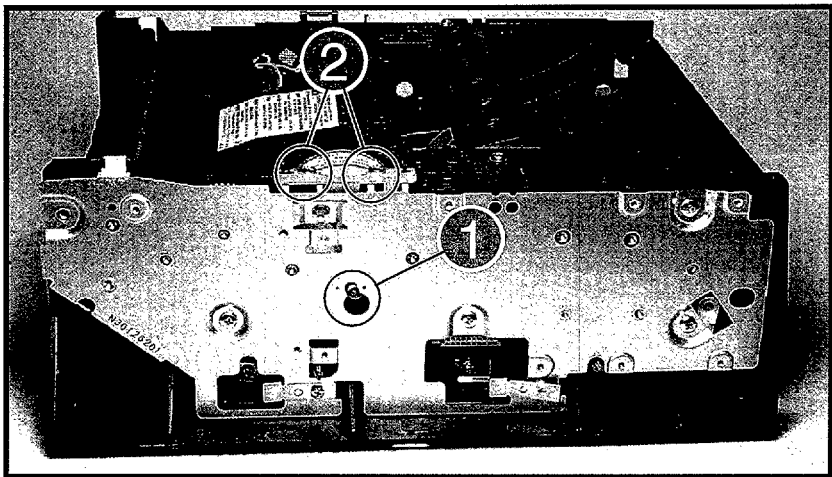

Figure 6-17 Removing the Main Motor (LaserJet 4L shown)
1. Remove the Printer Cover, and the Formatter Shield and PCA (Figure 6-17).
2. Remove the (1) machine screw through the access hole on the Gear Train Assembly, approximately two (2) inches below the top of the Main Motor (Figure 6-17, callout 1).
3. Remove the (2) self-tapping screws at the top of the Main Motor and pull the Main Motor straight up and out (Figure 6-17, callout 2).